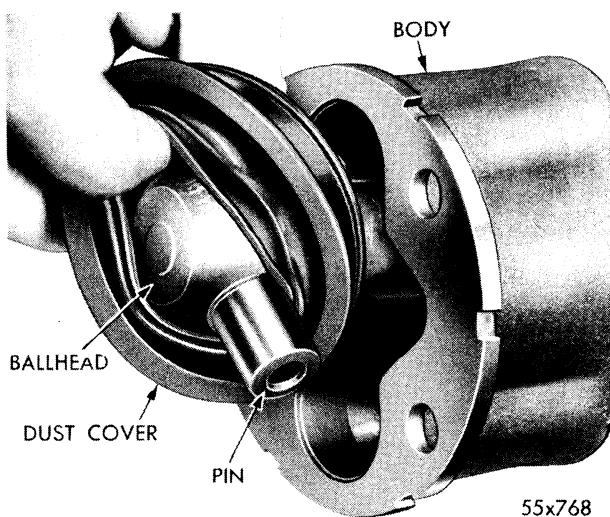
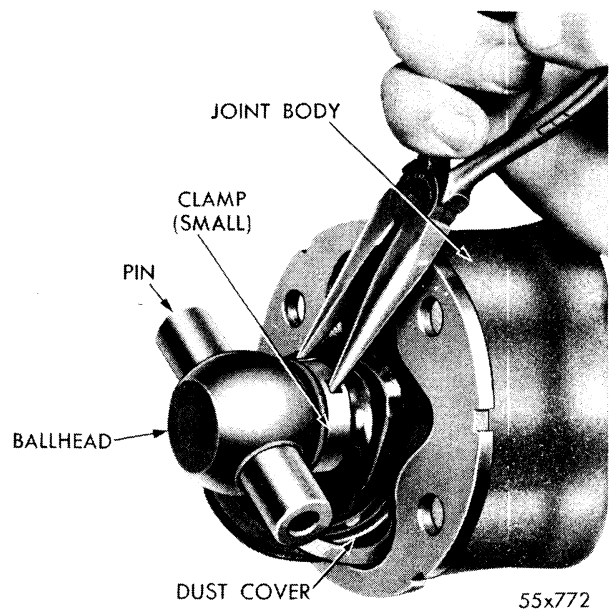

Fig. 8—Sliding Dust Cover over Ball Head and Pin
Fig. 9—Installing Small Clamp on Dust Cover
- (2) Disassemble joint; remove all parts except the body and pin.
- (3) Clean all parts including body, ball head, and pin thoroughly.
- (4) Push body all the way back, install boot by stretching it over the ball head and pin, as shown in Figure 8. **No lubricant applied to any parts thus far.**
- (5) Position boot as near to ball head as possible, then form small clamp around boot and thread one end of clamp through slot provided in other end of clamp.
- (6) Use suitable pliers to constrict clamp as far as possible by hand (Fig. 9). Secure clamp by bending end of clamp completely over. Do not cut off excess amount of clamp.
- (7) Apply light coat of universal joint grease to inside of body. This will aid in working boot through body.
- (8) Install thrust washers, balls, rollers, etc. on ends of pin.